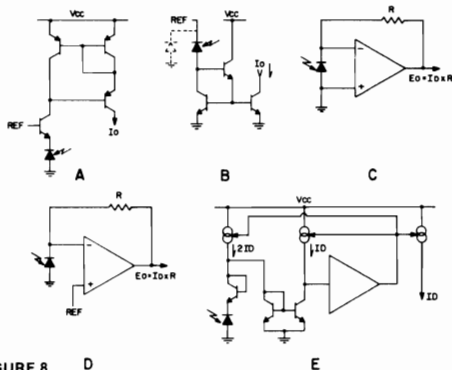

FIGURE 8
The design of circuit functions for optoelectronic ICs in many cases does not require any special considerations. Two significant exceptions are the photodetector-to-signal processing interface, and the effects of incident light on the circuit (since every transistor is also a small phototransistor). Figure 8 shows several light measurement circuits applicable to the 3500 array. Each of these techniques is designed to extract photocurrent at a fixed reverse voltage, minimizing the charging and discharging of the detector-capacitance with changes in light level. Photocurrent measurement is usually preferred to photovoltaic, since the current is directly proportional to illumination and linear over 5 orders of magnitude. In addition, a reverse bias reduces the junction capacitance. Note that circuit (B) places the collector substrate diode between a low impedance node and common, out of the measurement loop. Circuits (D) and (E) are designed to operate the detector at zero volts (short circuit current mode). This configuration provides the lowest possible dark current.